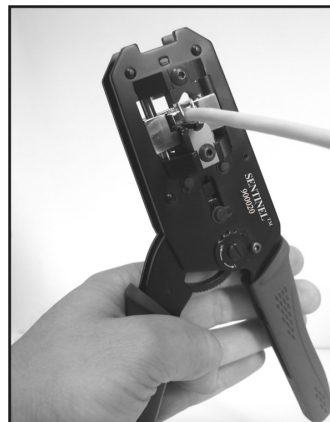

Fig.4.
- Insert the plug assembly in the tool as shown (Fig.4). Clicking sound of the plugs' locking tab is the end of inserting process.